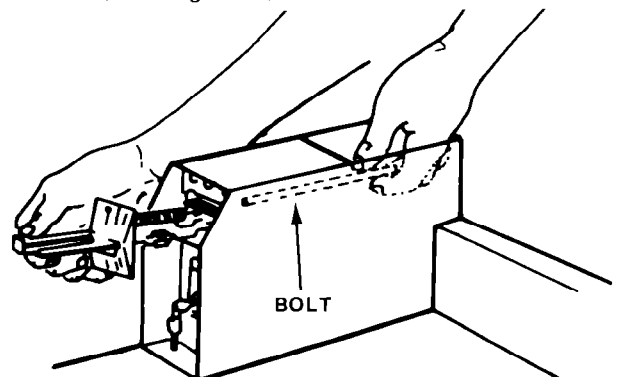

FIGURE 2
3. Secure the coin slide mechanism with the 3/16" bolt (supplied in the parts bag) from inside the meter case (See Figure 2).